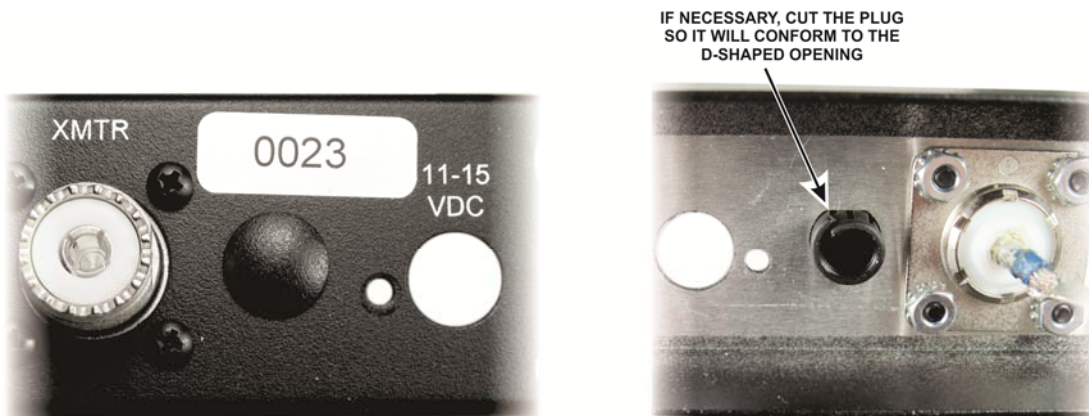

Figure 21. Installing the BNC Hole Cover.
□ Install the BNC hole cover in the opening next to the XMTR SO-239 connector as shown in Figure 21. Press the cover in until the ears on the plug lock it into place. This opening is "D" shaped. If needed, cut the plug section as shown to fit in the hole.